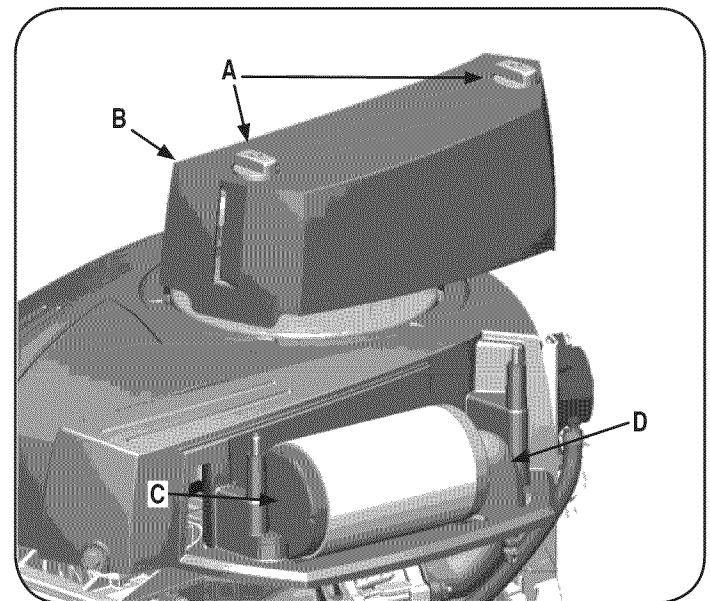

Figure 12
1. Remove the fasteners (A) and the air filter cover (B). See Figure 12.